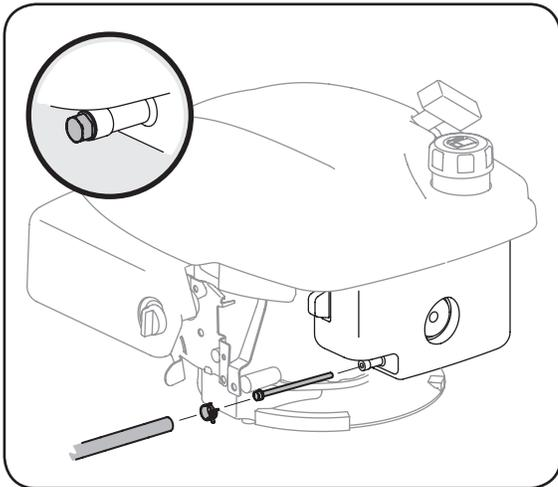

Figure 4-5
2. Remove c-clamp from fuel line and remove fuel line from tank outlet. See Fig. 4-5.
4. Grasp new fuel filter from shouldered end and insert it completely to the shoulder into the tank outlet. See Fig. 4-5 inset.